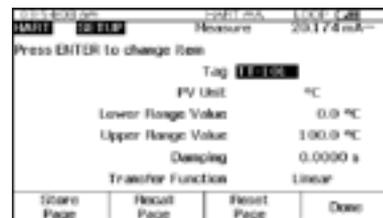

Figure 24.
9. Press the MEASURE/SOURCE button (2) times and input the LRV value (0 degrees C this example) using the 754 keypad and press ENTER.
10. Press  and then press the **Setup** softkey. Select **Basic** from the menu and press  to display the basic setup parameters shown in Figure 24. Move the cursor to **Lower Range Value** and press . Move the cursor to **Apply Values** and press . Press  to select 4 mA. Press the Continue softkey, then press "any key" then press the Set softkey. Press "any key", the Done and abort Softkeys until you exit to the source screen. Using the 754 keypad, type in the URV (100 degrees C in this example) value recorded in step 8 and press .
11. Repeat step (10) but select 20 mA after Selecting "Apply Values" instead of 4 mA.